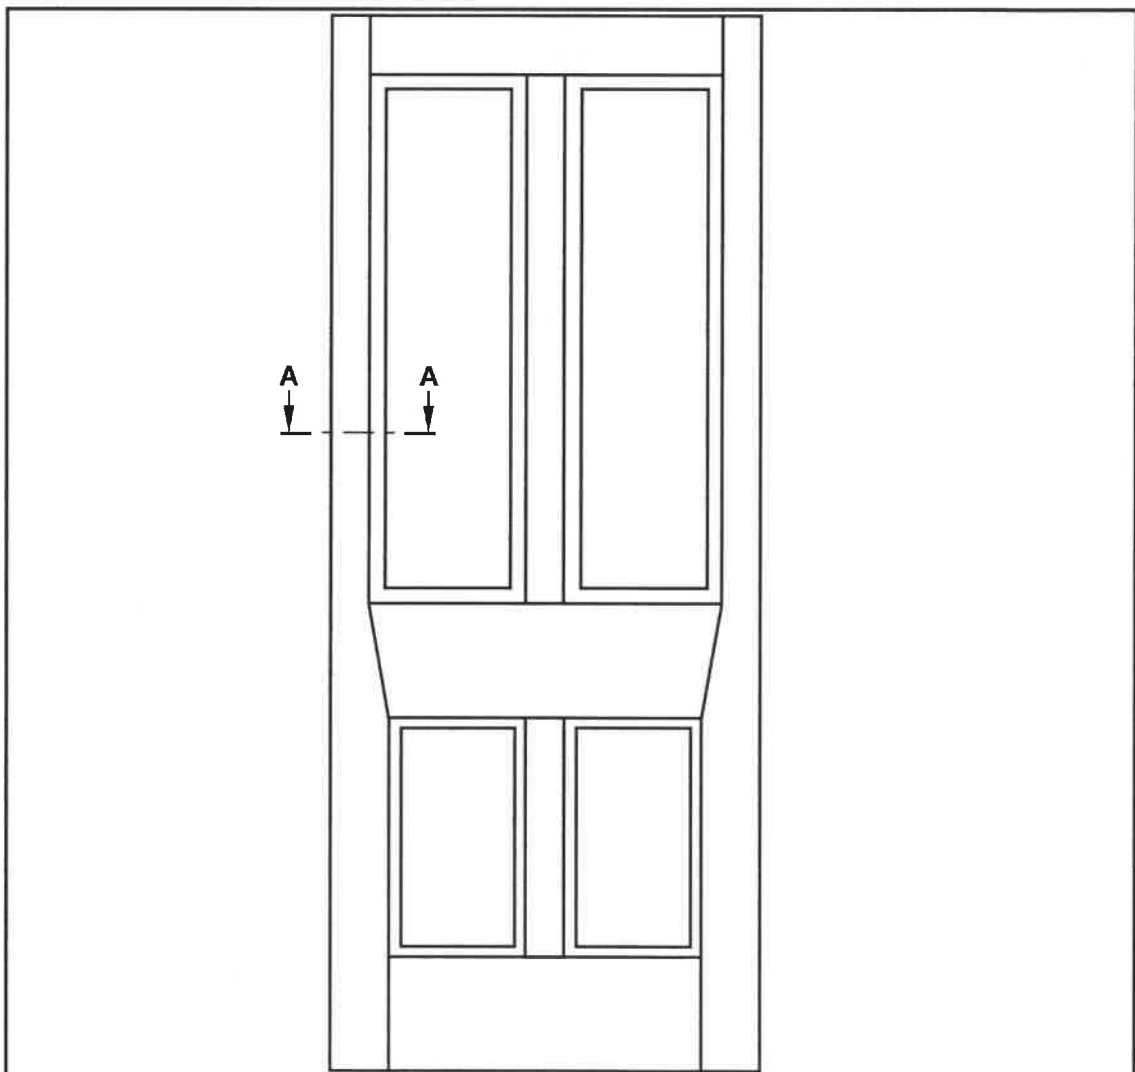

FIGURE 6.5
6.5 FIGURE 6.5 shows the front view of a four-panel door with a low lock rail, diminishing stiles and raised panels. Section line A–A is also indicated on the drawing.